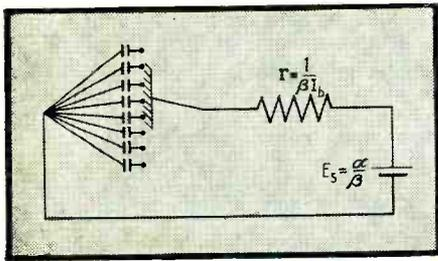

FIG. 7—Equivalent circuit of a dark mosaic undergoing scanning
The solution in Eq. (3) is an exact equivalent of a simple charge of capacitors by a commutating brush in the arrangement shown in Fig. 7. The brush, covering a number of capacitors of a total capacitance  $C$  and commutating  $nNC$  farads per second, charges them through a resistance  $1/\beta I_b$  from a battery of  $\alpha/\beta$  volts.